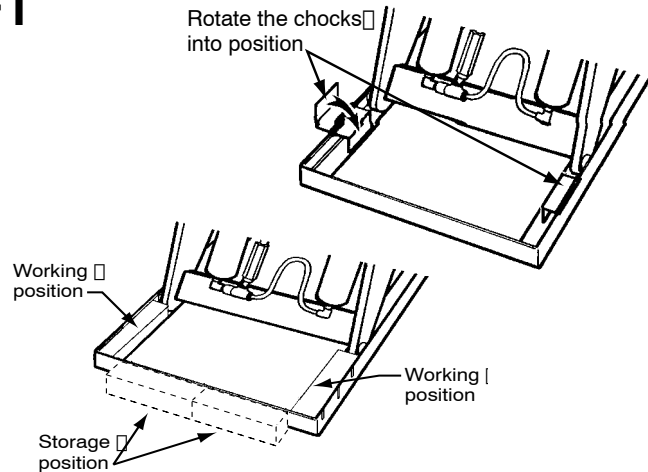

Figure 1 - Safe Servicing of Lift
3. Remove the maintenance device(s) from its/their storage location and place it/them into the engaged position as shown in Figure 1. (Note: further information may be useful here to provide additional instructions as to the location and method of storage and engaged positions).
Raise and chock the lift, as shown in Figure 1.
When adjusting the flow control, always raise the lift table and insert the maintenance chocks, as shown in Figure 1. Do not try to adjust the flow control while pressing the “down” button. If you try this, the lift table may drop suddenly, and you may be hurt.
- **Raise the lift table and insert the maintenance chocks**, as shown in Figure 1.
- Every time you want to change the adjustment again, raise the table again and insert the maintenance chocks as shown in Figure 1.